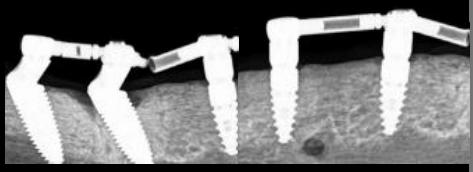

Fig 4: Radiographs 3 months after placement in dog 1. Due to overload only localised crestal bone loss resulted at the surrounding of tilted implants.
- Fig 4: The straight and angulated implants are placed epocranially (left). Implants in Group 1+2 are connected with a metal bar (SF bar) and immediately loaded (right).